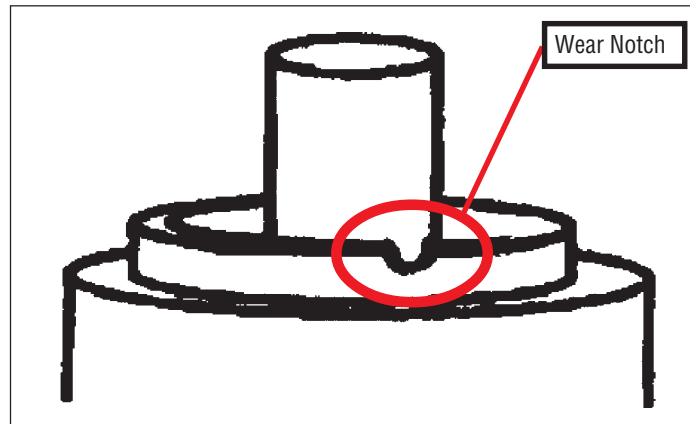

Figure 2
- (1) With the hood raised, listen carefully where the noise is coming from. If the noise can be heard from around the timing belt cover area, there is a possibility that the noise is coming from the timing belt tensioner.
- (2) Confirm if the noise is coming from the upper portion of the timing belt tensioner by using a stethoscope. If noise can be heard it's either coming from the tensioner or bracket. Inspect the belt tensioner; if the cylinder body of the timing belt tensioner has a notch from wear (see Figure 2) the tensioner will need to be replaced.